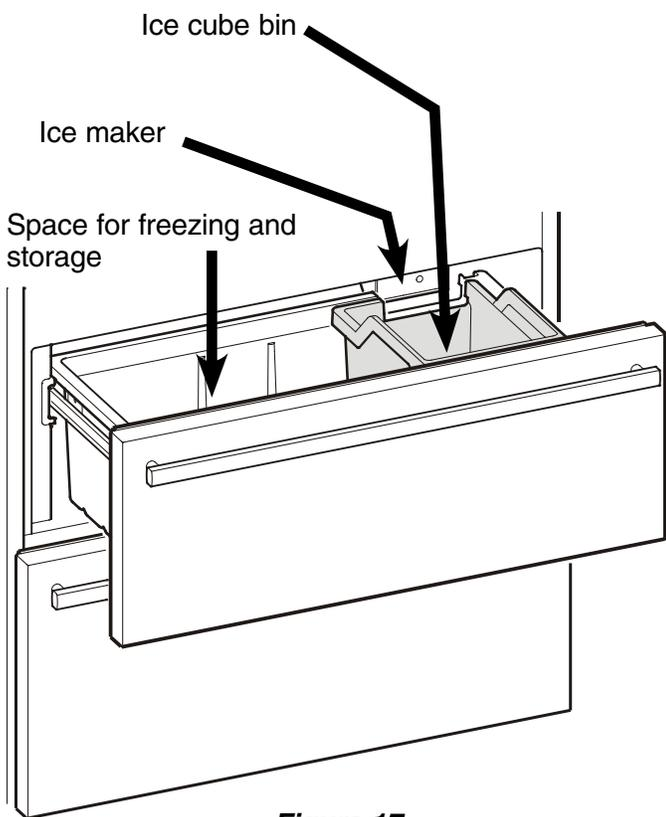

Figure 17
- *Figure 17*
- The Ice Maker can only make ice cubes if the upper freezer drawer is completely closed and the ice cube bin is installed correctly (**Figure 17**).
- Finally clean the ice cube bin (**Figure 17**).
The ice cubes fall out of the Ice Maker into the ice cube bin (**Figure 17**). When the ice reaches a certain level in the bin, the appliance stops producing ice automatically. The ice maker will not fill the bin to the top.
Be sure the upper freezer drawer is completely closed and the ice cube bin is installed correctly. (**Figure 17**).
- Remove glass shelves as shown in **Figure 17**.